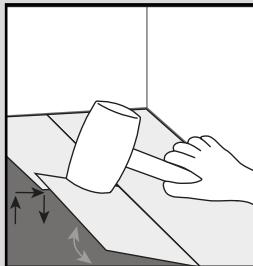

Fig. 3
4. Start the second row by clicking the tongue into the groove holding the plank at an angle (approximately 30°), then tap the plank firmly into the groove of the first row. Fit the next plank by easing the tongue and groove together on the longside. The end joint can then be tapped into position with the next plank. (Fig. 3).